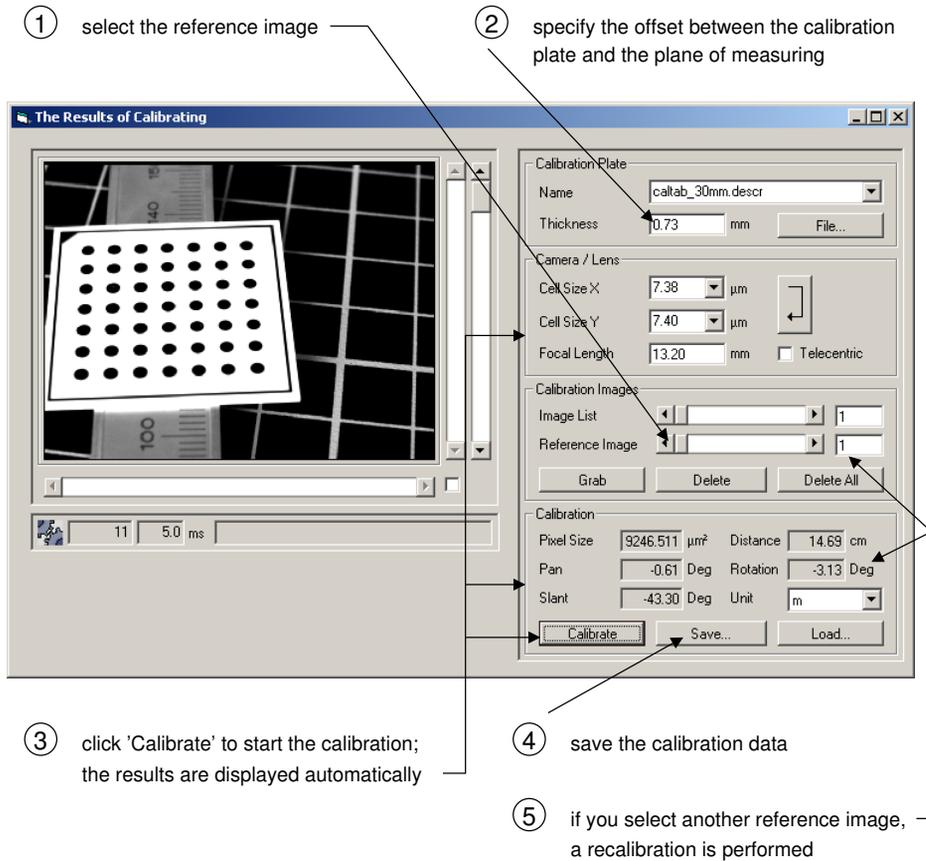

Figure 2.3: The actual calibration process.
The following steps are visualized in figure 2.3.
- ① Select a reference image with the slider Reference Image or by typing its number in the neighboring text field; in figure 2.3, the first image of the sequence was selected.
- ② Specify the distance between the surface of the calibration plate and the desired plane of measurement in the text field Thickness. If, e.g., the calibration plate lies directly on top of the plane of measurement in the reference image, this distance corresponds to the thickness of the calibration plate itself (default value). In the example in figure 2.3 0.73 was specified; this corresponds to the plane of the markings on the calliper rule.